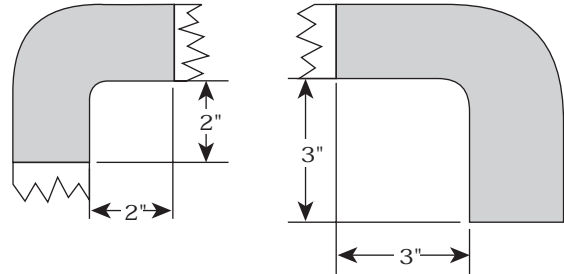

Fig. 9-a
**NOTE:** S.H.O. V-7 APPLICATIONS - The 10-rib supercharger pulley supplied in this kit fits close to the upper radiator hose. More trimming than shown in Fig. 9-a may be required.